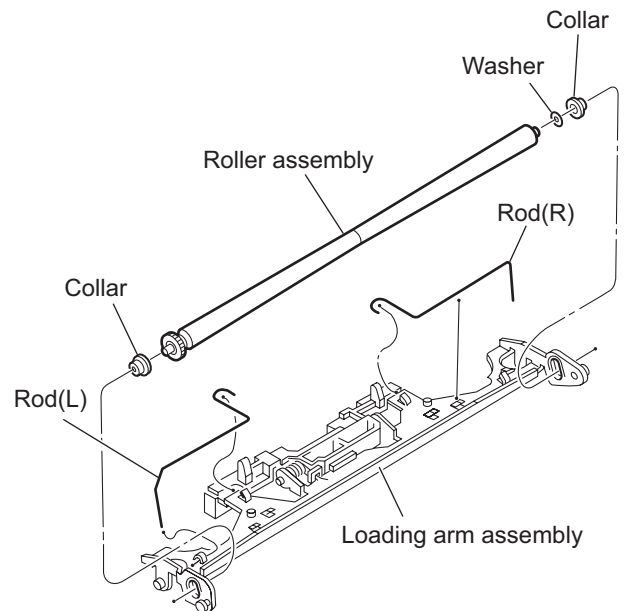

Fig.16
- (2) Remove the roller assembly from the loading arm assembly. (See Fig.16.)
- (3) Remove the two collars and washer from the roller assembly. (See Fig.16.)